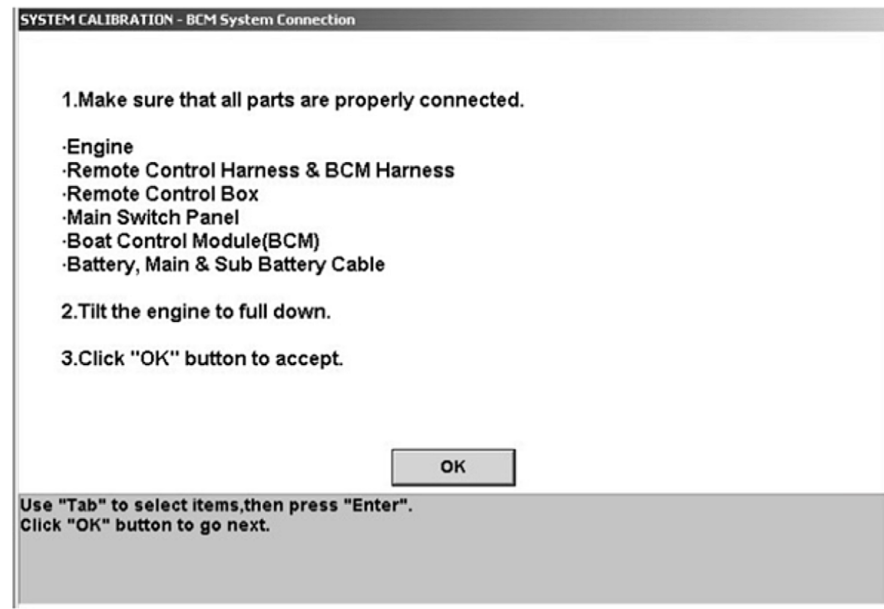

Figure 7-2. Pre-calibration checks.
1. Click **System Calibration** to start the calibration wizard. The dialog box shown in figure 7-2 will be displayed. Review the checklist and when you've confirmed that all the items are complete, click **OK**.